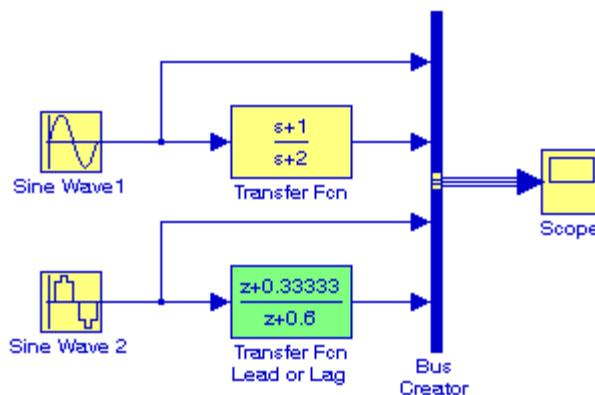
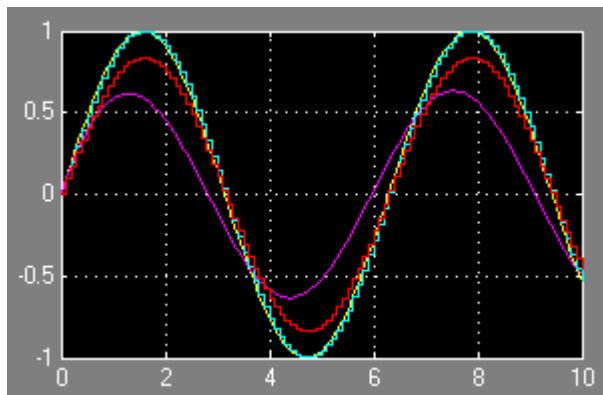

Figure 5.21. Model for Example 5.10
Figure 5.22. Input and output waveforms for the model of Figure 5.21
3. The model is shown in Figure 5.21. The input and output waveforms are shown in Figure 5.22. The sample rate for the discrete Sine Wave block is specified as 0.1 s.